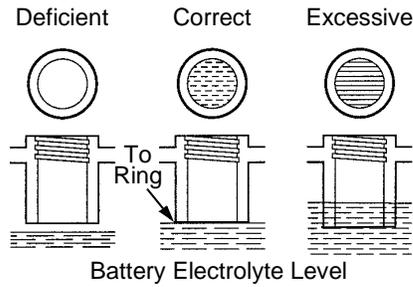

Figure 76
- Maintain the battery electrolyte level in each cell. Keep each cell filled to the bottom of the ring in each vent hole. Fill with distilled water if necessary. See Figure 76.